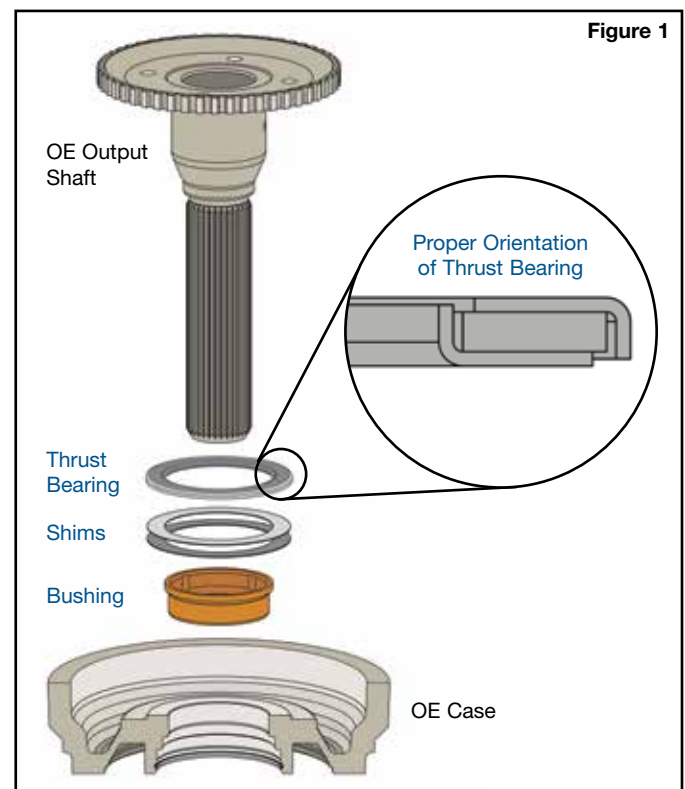

Figure 1
- c. Install Sonnax thrust bearing around the bushing's flange and against the shims in proper orientation (**Figure 1**).